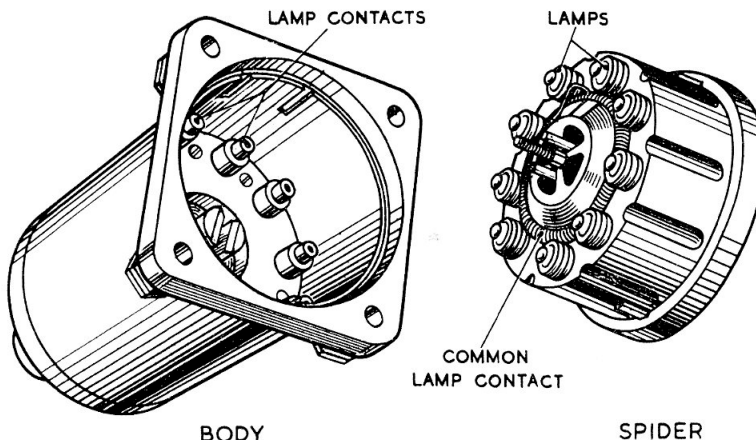

Fig. 2. Internal view of indicator
5. The body of the indicator carries nine spring-loaded plunger-type contacts (fig. 2), one for the centre contact of each lamp, the fixed part of each plunger contact continuing through the rear portion of the moulding to receive the external electrical connections; the body also houses the ball indexed mechanism which provides the change over switching to the alternative lamps for the undercarriage indicator. In certain mark numbers of indicators, a protective resistance is fitted in the lamp circuit to minimise the risk of lamp failure.
23. When replacing defective lamps, care should be taken to ensure that the keys on the lamp assembly engage with the keyways in the casing, under no circumstances must force be applied. Should any of the spring-loaded contacts in the casing (fig. 2) prove to be faulty, the indicator must be replaced by a serviceable unit.